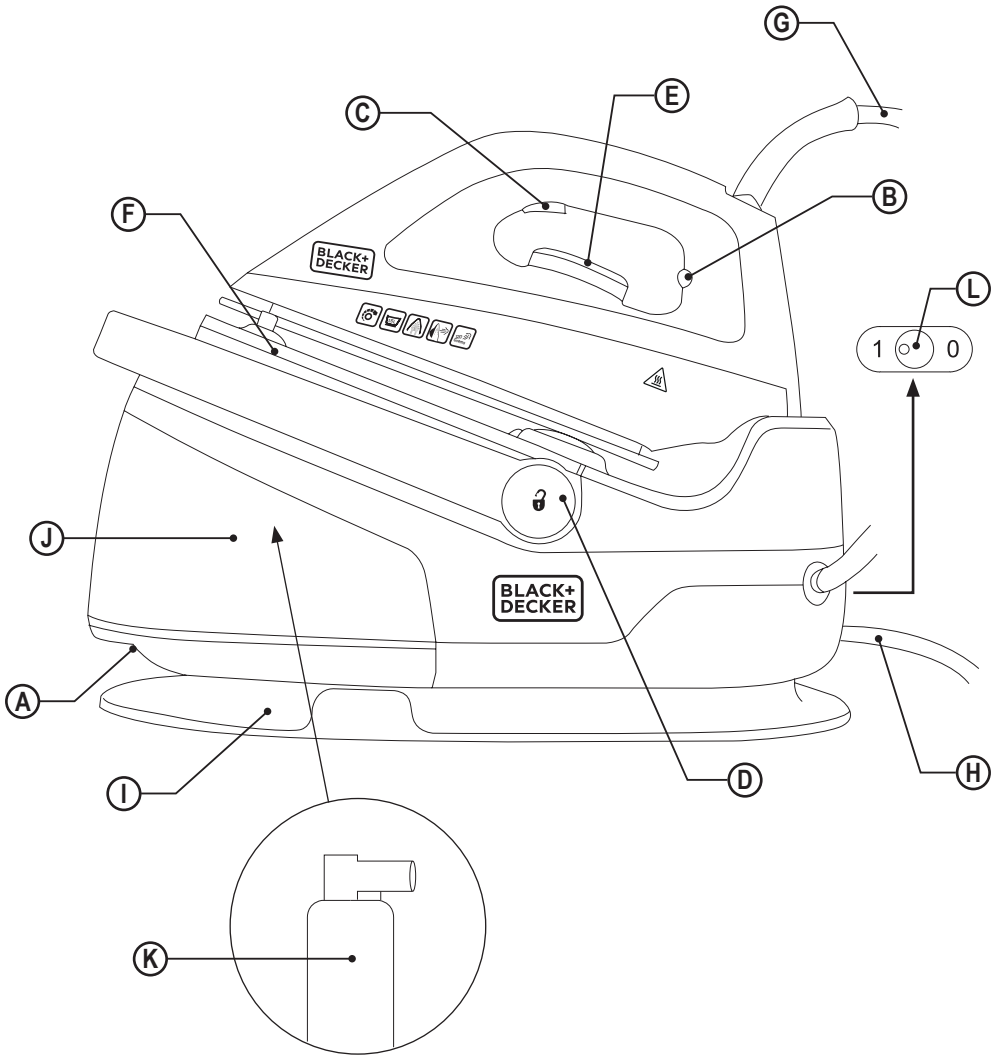

Fig.1
- ◆ IMPORTANT: Check that the water tank is coupled correctly to the anti-scale filter on the inside before switching on the appliance (Fig. 1)